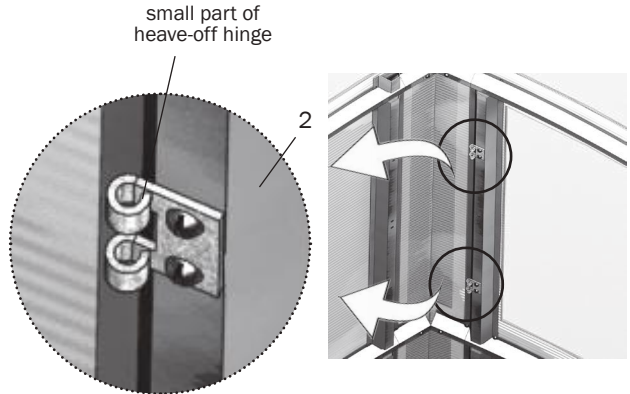

Fig.4
4. Mount small part of heave-off hinge on element 2 (ridge) (Fig. 4). Cover edges of polycarbonate in the opening with adhesive tape together with the edge of element 2. Stick sealing profile on polycarbonate along the top edge of the window (Fig. 6).